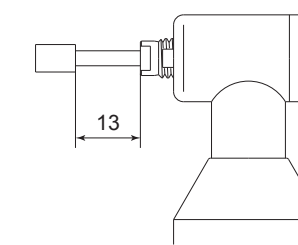

Fig. 12
- ① The proper surface speed for general grindstones is 10-30m/s.
- ② Do not exceed 13mm of overhang for mounted grindstones as shown in Fig. 12. If the overhang must exceed 13mm, reduce the motor speed in accordance with Table. 3.
- ③ Dress the grindstone prior to use.
- ④ Do not use cutting tools with bent or broken shanks, cracks or excessive run-out.
- ⑤ For grinding, the maximum depth of cut should not exceed 0.01mm radially or axially. Reciprocate the tool several times after each pass to eliminate tool pressure.
- ⑥ Always operate cutting tools within the allowable recommended speed of the cutting tools. Use of a cutting tool outside of the allowable speed of the cutting tools could cause damage to the spindle and injury to the operator.
- ⑦ Keep the cutting tool shank and collet chuck clean. If contaminants are left in the collet chuck or chuck nut, excessive run-out will cause damage to the cutting tool and or Spindle.
- ⑧ Do not strike or disassemble the Spindle.
- ⑨ Please set the cutting tools to minimize the overhang amount. 13mm is the maximum amount of overhang to maintain high accuracy and safety.